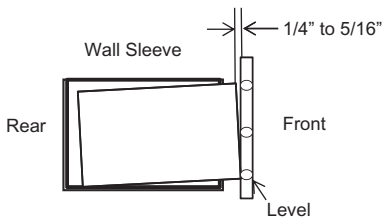

Fig.1
- When installation is complete, replacement unit must have rearward slope as shown in Fig 1.
1. Attach the 2 seals (1" x 3/8" x 14") as shown in Fig. 1.